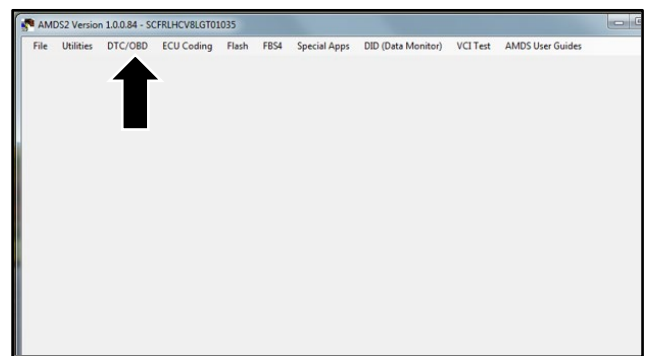

Figure 15
25. Select "DTC/OBD" (refer to Figure 15).